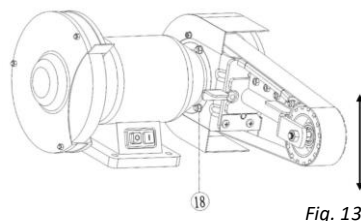

Fig. 13
1. Loosen the nut (#18) (Fig. 13).
2. Adjust the frame up and down to the desired angle (Fig. 13).